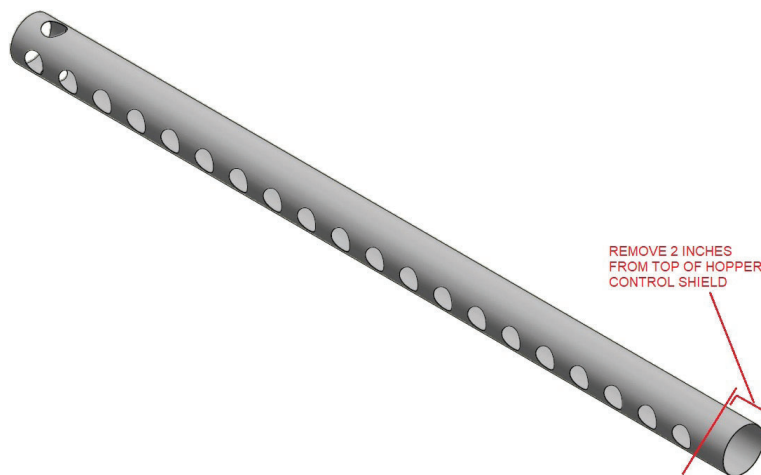

Figure 1 - 10A12665-001 Shield
- c. Cut off 2" from the top of the 10A12665-001 shield. Deburr, prime and paint for corrosion protection. Reference Figure 1.